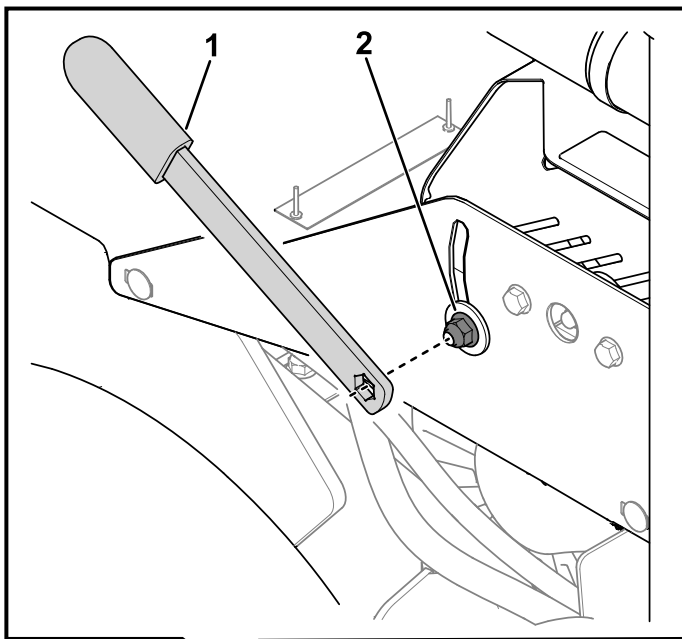

Figure 38
- B. Use the lever from the operator's manual tube to loosen the nut on the platform frame (Figure 38).